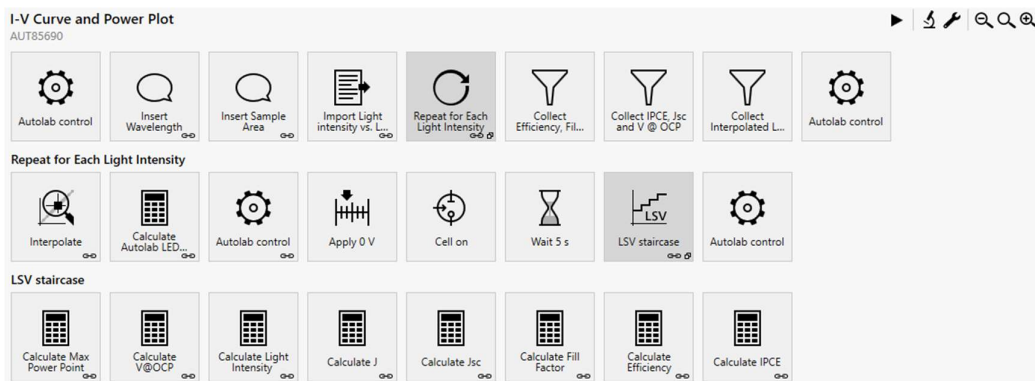

Figure 44 – An example of a procedure used to measure the i/V curve of a cell
Under potentiostatic condition, it is common practice to start the scan at 0 V (short-circuit conditions) and stop the scan when the current becomes zero (open circuit conditions). An example of a procedure for this type of measurement is shown in Figure 44.
- A Repeat for each value command, with the set current values defined in the values sequence of the repeat command can be used in combination with the Autolab Control command. This will repeat the whole measurement sequence for each pre-defined value (see Figure 44).
- The Calculate signal command can be added to the sequence in order to rectify the WE(1).Power signal (which is negative in the raw measurements). This is also shown in Figure 44.